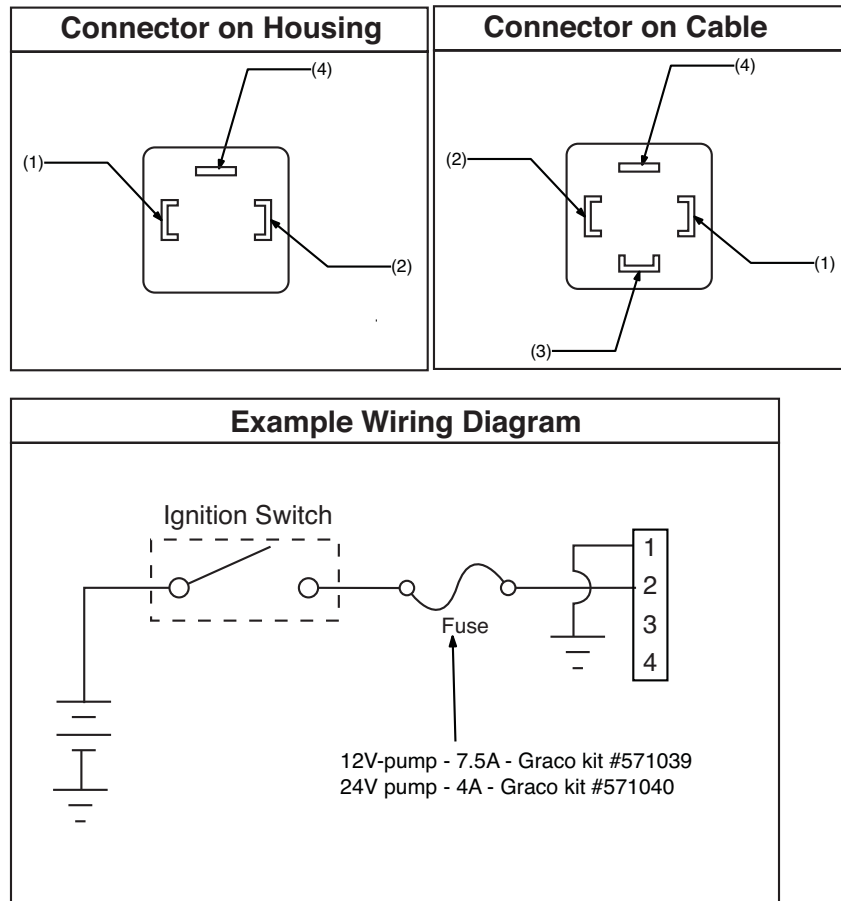

FIG. 4
**Pin and Related Wire Color (Fig. 4, page 13)**